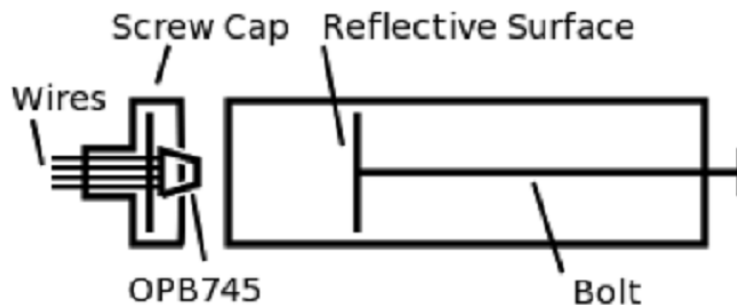

Figure 3.1: Optoisolator Diagram
- Design and build a test environment for the OPB745 that will isolate the sensor from external lighting and will allow you to accurately adjust the distance between a reflective surface and the OPB745's sensor head. Examples of the isolation chamber are shown in Figures 3.1 and 3.2. When designing the chamber, keep in mind that: